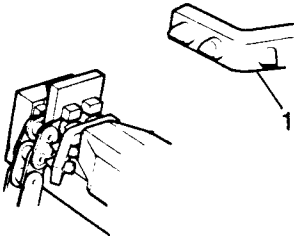

Fig B4.94
- (13) Refer to Fig B4.94. Fit the rivet adaptor (1) into the head of the press and tighten the press fully down onto the pins using hand pressure only on the press tommy-bar.
- (14) Check that a slight side-play exists on the link with no tight spots.